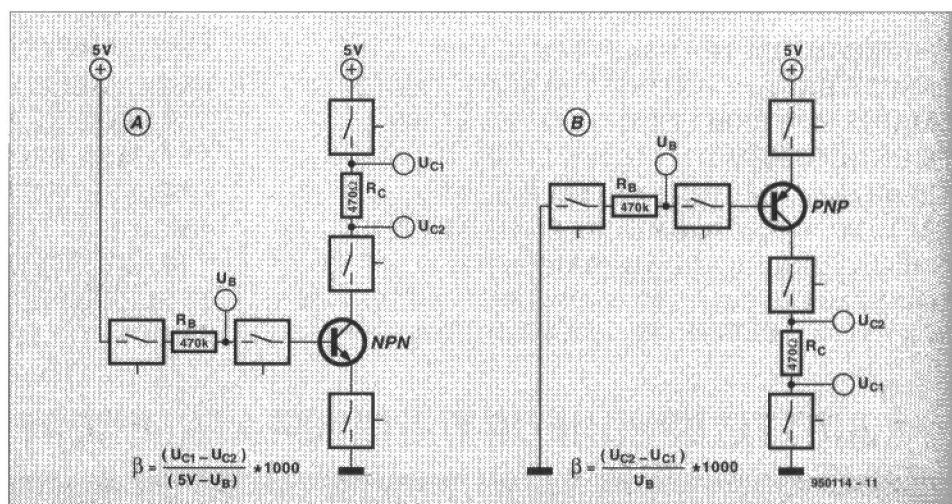

Fig. 1. Realistic values of base and emitter currents can be obtained only if a transistor is connected as shown
In order to identify the type of a transistor, a standard transistor circuit is connected to the test socket as shown in Fig. 1. In the case of an n-p-n transistor (A), this means that
In the circuits in Fig. 1, these currents fall within a certain range. Since the transistor can be inserted into the test socket in a variety of ways, six possible pinouts must be tried out: CEB; CBE; ECB; BCE; EBC; and BEC.